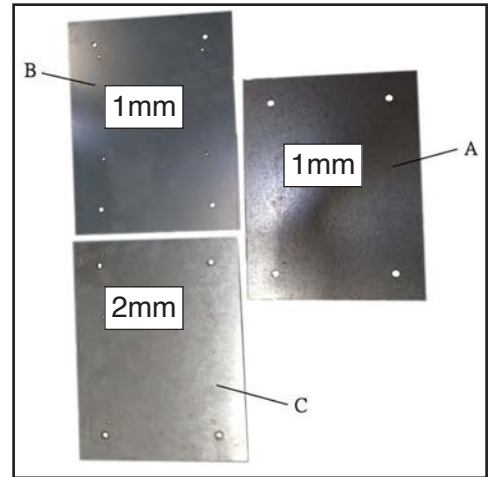

**Figure 25.** Included depth-of-cut sheets.
The Model G0984 comes with three metal sheets of varying thicknesses: 1mm (A), 1mm (B), and 2mm (C) (see **Figure 25**). These sheets can be installed on the infeed table bed and will determine the amount of material that is surface planed.